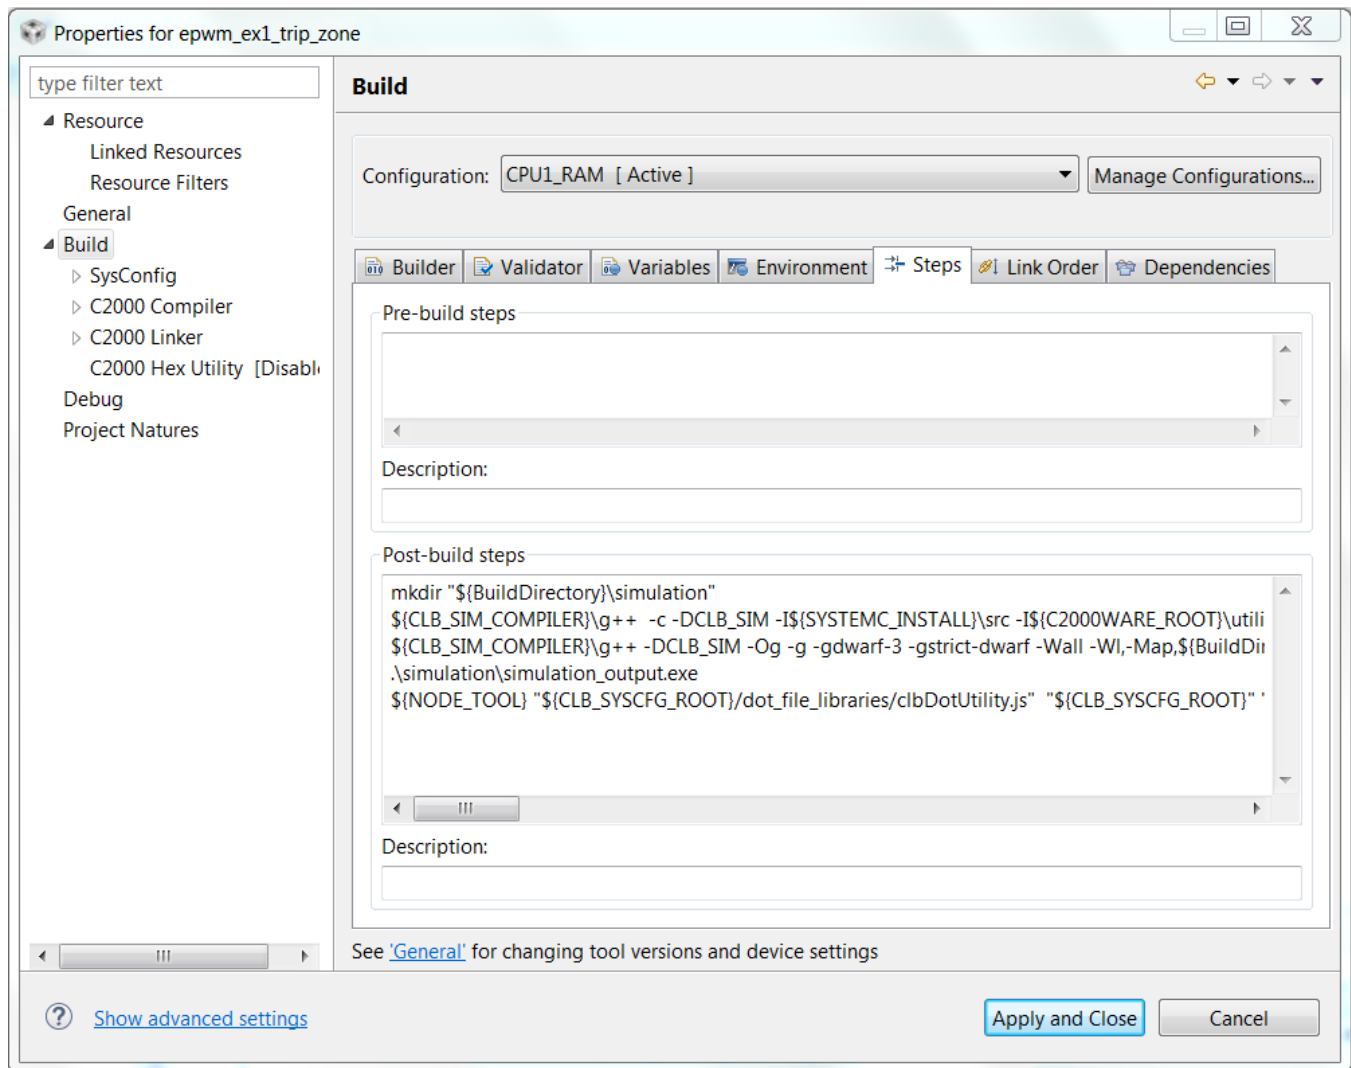

Figure 35. Post-build Steps
6. The final Post-build steps should look similar to those in Figure 35.